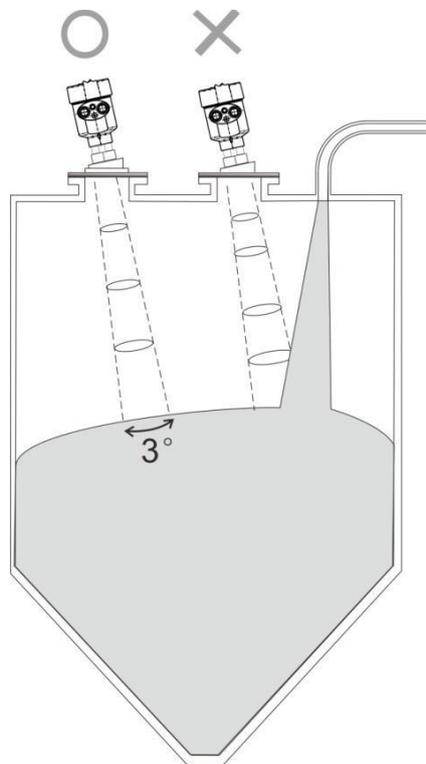

Fig.2 Example for avoiding false echoes
- Avoid the contact between antenna beam and feeding flow, as shown in Fig.2.